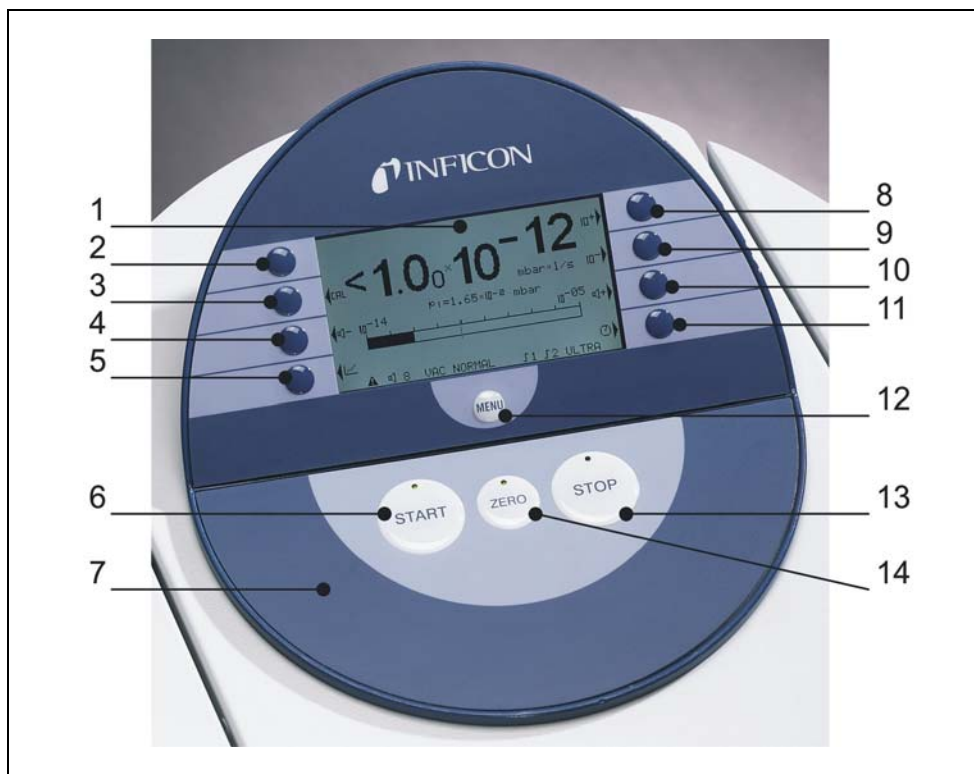

Fig. 3-2: Control Panel
- 5** Press the **START Button** Fig. 3-2/6. The inlet will be evacuated and the measured leak rate will be displayed a moment later.
- 6** To correct for any background signal (residual Helium in the part under test) you may press the **ZERO Button** Fig. 3-2/14. To undo *ZERO* please press the **ZERO Button** for 2 ... 3 seconds.
- 7** Press the **STOP Button** Fig. 3-2/13, the Standards will go to Stand-by. If you press *STOP* a few seconds the inlet of the Standards will be vented.
- Press **Calibration** (Soft Key no. 5 Fig. 3-2/8) to get into the calibration menu.
- Select *internal* (Soft Key no. 4 Fig. 3-2/5) to choose the internal calibration.
- Select *automatic* (Soft Key no. 8 Fig. 3-2/11). The automatic procedure of the internal calibration is started and takes about 30 seconds.
- 10** Press the **STOP Button** Fig. 3-2/13 until the message *STAND-BY/VENTED* appears on the display. The inlet is vented now.
- 12** Press the **START Button** Fig. 3-2/6 again. The inlet will be evacuated and the leak rate of the test leak will be measured and displayed.
- 13** Press the **STOP Button** Fig. 3-2/13 to interrupt the measurement. The Stand-by mode will be displayed.
- 14** Press the **STOP Button** Fig. 3-2/13 again until the message *STAND-BY vented* appears on the display. The inlet is vented now.